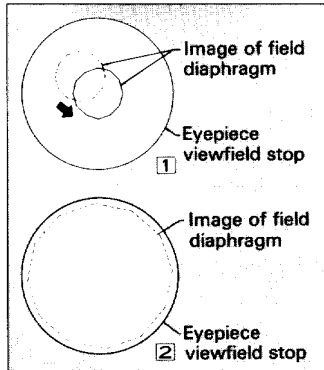

Fig. 3-14
- 14) Focus and center the condenser lens (Fig. 3-14). (See p. 21, Manipulation of Each Element-6.)